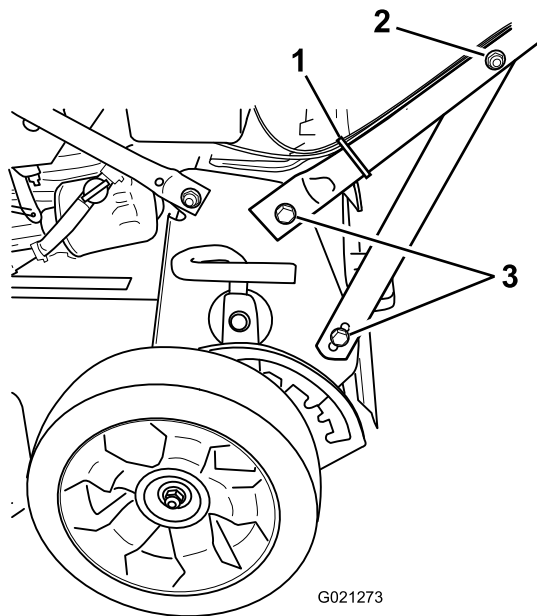

Figure 2
4. Tighten the fasteners that support the handle on both sides of the machine as shown in Figure 2.
2. Nut on handle support bracket (2)
3. Bolt (4)
5. Use a cable tie to secure the cables to the lower handle in the location shown in Figure 2.
2. Remove the handle bolt and insert it in 1 of the 3 holes located at the bottom of the handle bracket (Figure 2).